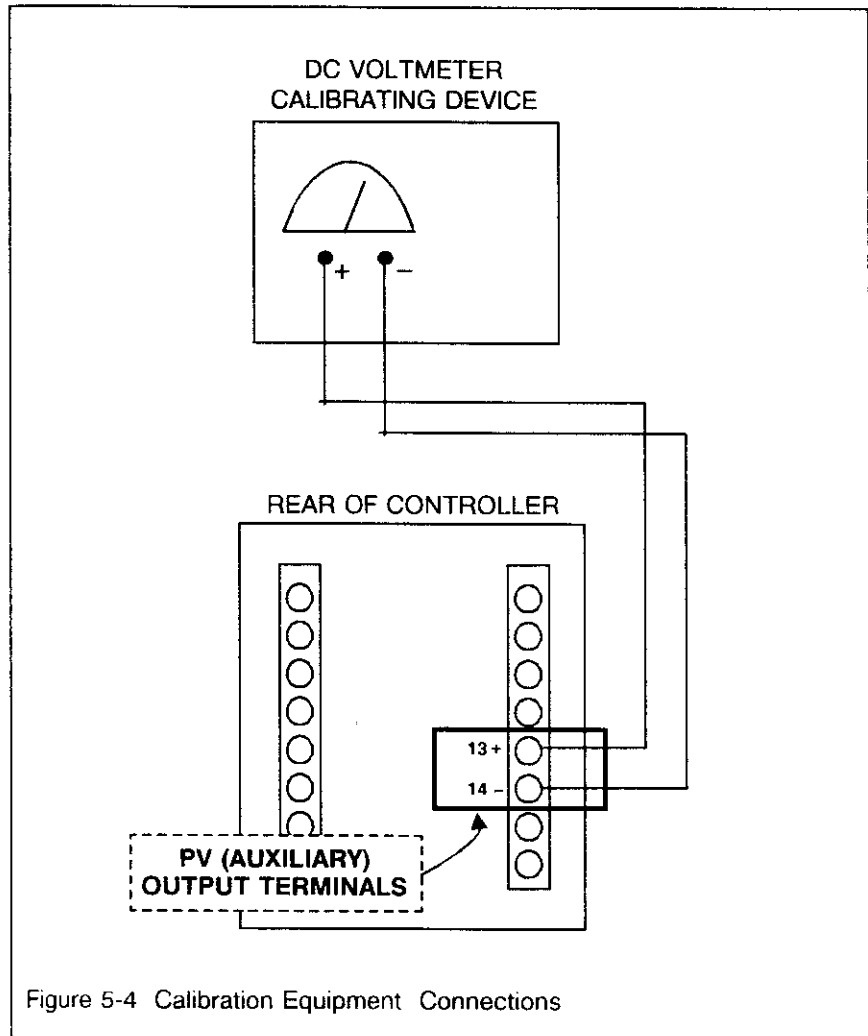

Figure 5-4 Calibration Equipment Connections
- Tag and disconnect the field wiring at the rear of the controller from terminals 13 and 14 (see Figure 5-4).
- Connect a calibrating device across terminals 13 and 14 (see Figure 5-4).